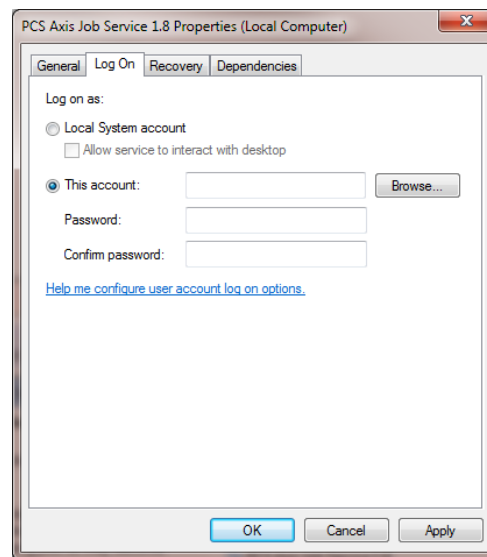
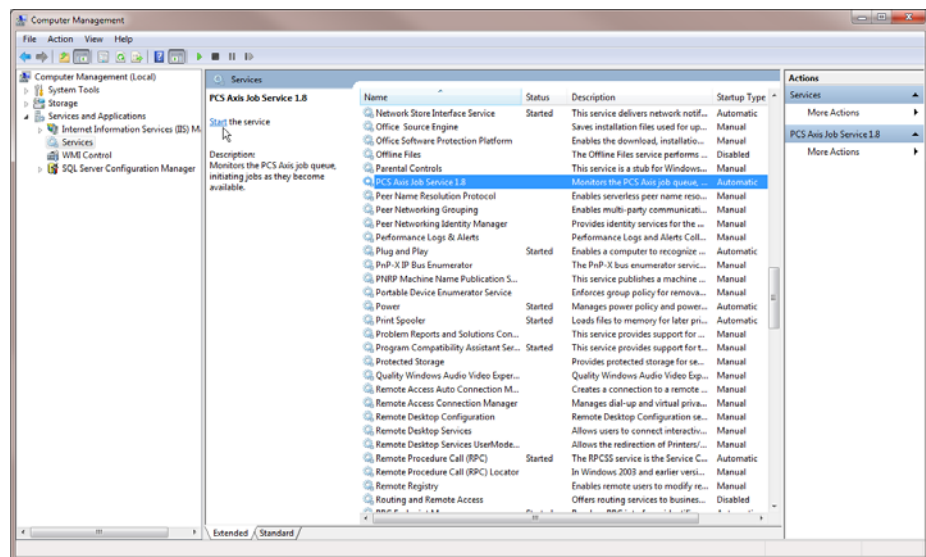

Figure 11-6. PCS Axis Job Service Properties
Figure 11-7. Computer Management Console
- c Right-click **PCS Axis Job Service 1.8** (Figure 11-7) and select **Properties** in the shortcut menu to open the *Properties* dialog box (Figure 11-6).
- a Select **PCS Axis Job Service 1.8** and then click **Start** (Figure 11-7).